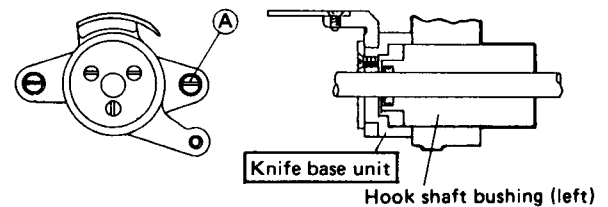

Fig. 3
- (1) As shown in Fig. 3, fit the knife base unit to the hook shaft bushing (left) and fix with the screws (A).